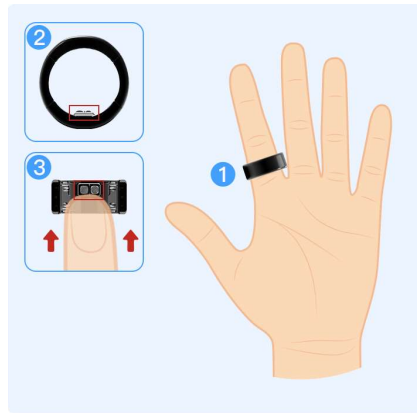

Figure 6
(3) Wear the ring as shown in **Figure 6**: